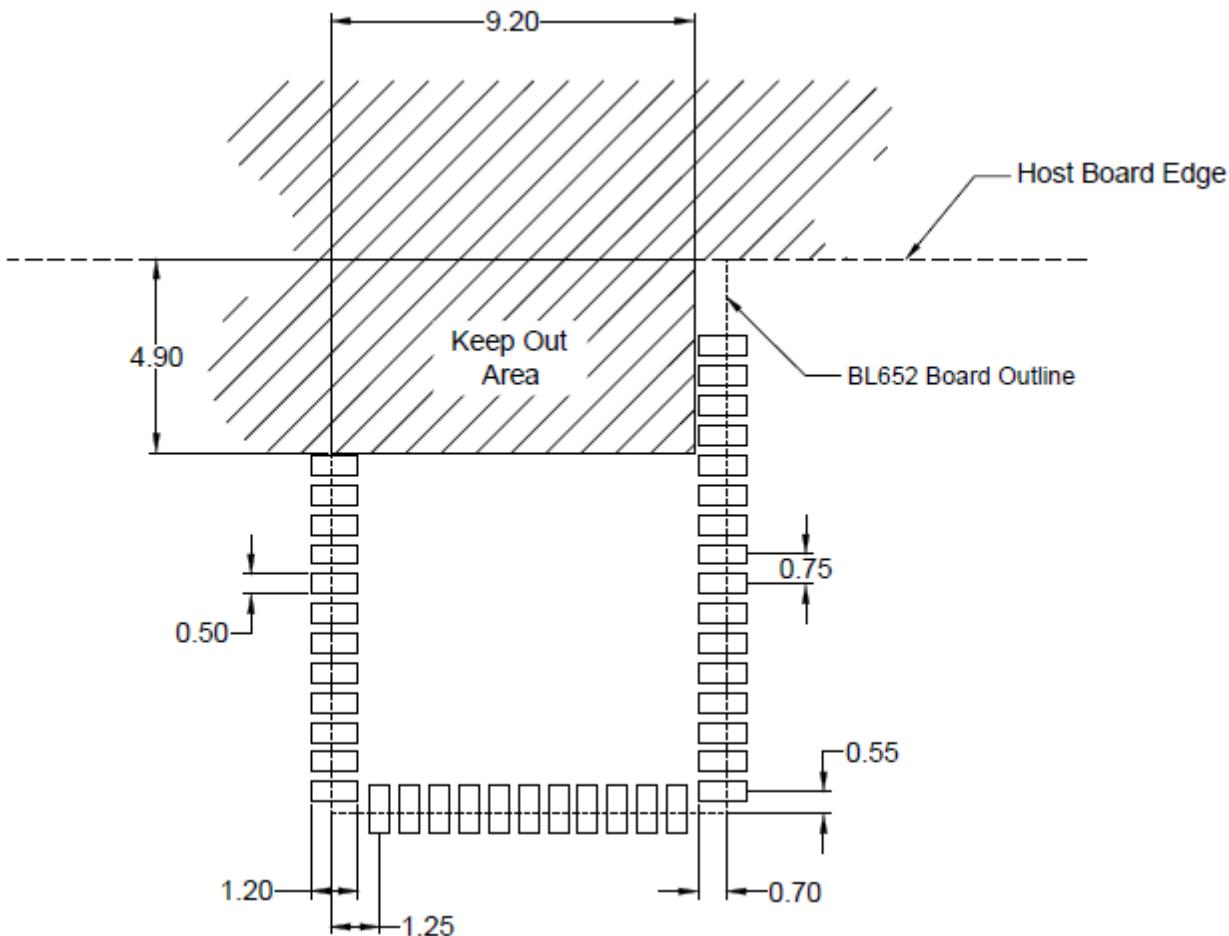

Figure 11: Land pattern and Keep-out for BL652-SA
**Note 3** BL652 development board has BL652-SA placed on the edge of the PCB board (and not in corner) for that the Antenna keep out area is extended down to the corner of the development board, see section PCB Layout on Host PCB for BL652-SA, Figure 11. This was used for module development and antenna performance evaluation.